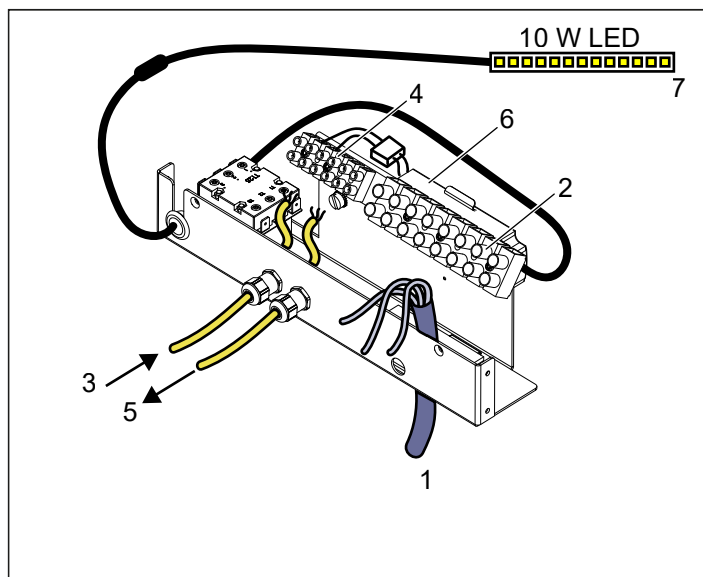

Figure 9: Electrical Compartment
3. Connect the power cable (see Figure 9) according to the wiring diagram (see Figure 16).
5. If installing twin heaters run the cable for the internal light from terminal block 4 in the first heater, see figure 9